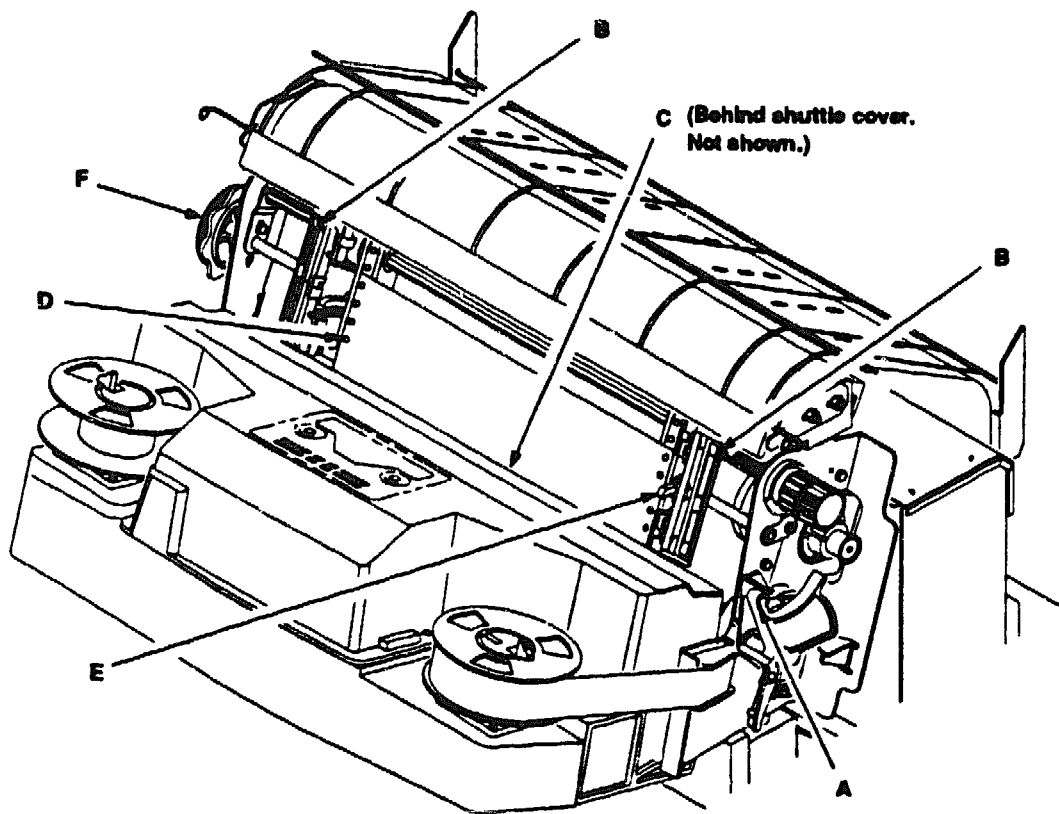

Figure 3-3. Loading and Unloading Paper
2. Fully raise the forms thickness adjustment lever (A, Figure 3-3). Open both tractor gates (B) by swinging them out.
3. Open the floor cabinet front door and align the paper supply with the label on the floor of the cabinet. Feed the paper up through the paper slot until it appears behind and above the ribbon mask (C).
4. Load the paper on the tractor sprockets (D) and close the tractor gates (B). Press the tractor locks (E) down, slide the tractors to align the paper and to remove slack in the paper. Use the paper scale on the shuttle cover to align or center the paper as desired. (You can also use the paper scale to count print columns.) Lift the tractor locks (E) up to lock them.
6. If you need to make fine adjustments to the left margin, turn the horizontal adjustment knob (F).